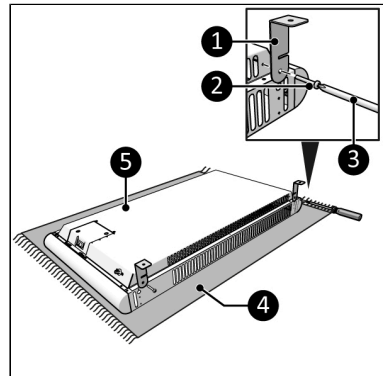

Figure 11.
7. Lay the device down on a soft steady surface (Figure 11, pos. 4).
8. Screw and tighten two brackets (Figure 11, pos. 1) on both sides of the main body (Figure 11, pos. 5) with a small screw (Figure 11, pos. 2) using a Phillips screwdriver (Figure 11, pos. 3).